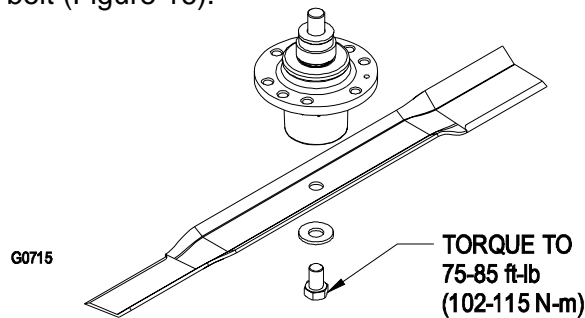

FIGURE 16
- f) Remove the blade. Make sure to grasp the end of the blade using a rag or a thickly padded glove. Place a wrench on the top spindle nut and remove the blade bolt (Figure 16).
- i) Re-install a sharp balanced Exmark blade, spacer, washers, and blade bolt as shown in Figure 16. The sail of the blade must point toward the top of the lawn mower housing for proper installation. Torque the blade bolt to 75-85 ft-lb (102-115 N-m).